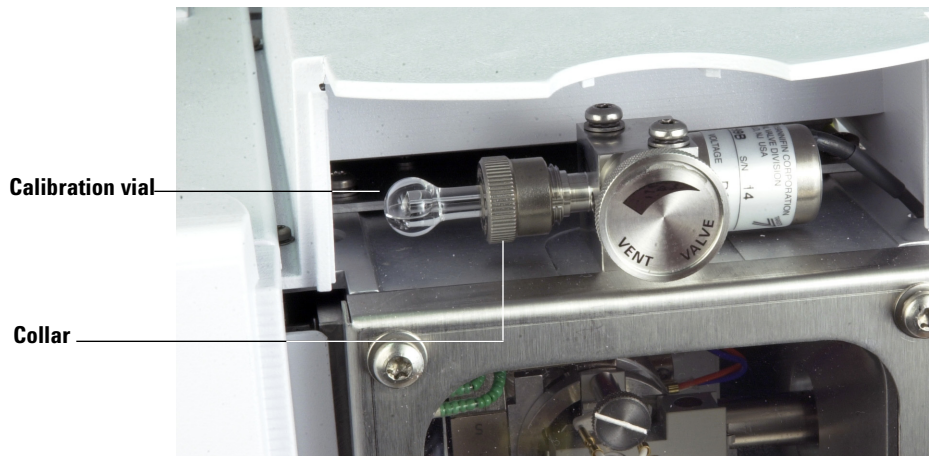

Figure 13 Removing the EI calibration vial
- 5 Loosen the calibration vial collar (Figure 13). Do not remove the collar.
- 3 Loosen the collar and remove the calibration vial (Figure 13). Just loosen the collar, do not remove it.
- 1 Remove the old valve assembly. See page 112 and Figure 13.